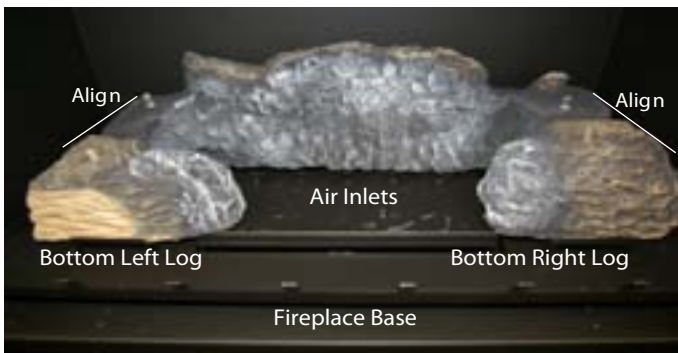

Figure 10b. Placing Bottom Right / Left Logs.
**Step 3.** Place the bottom Right and Left logs as shown in **figure 10b**.
Arrange the ember chips on top of the burner tray. Care should be taken when placing the embers, as blocked burner ports may cause an incorrect flame pattern, carbon deposits and delayed ignition. Also, the embers must never be placed in a way that obstructs any of the air inlet ports, located at the rear of the burner, as shown in **figure 10b**.